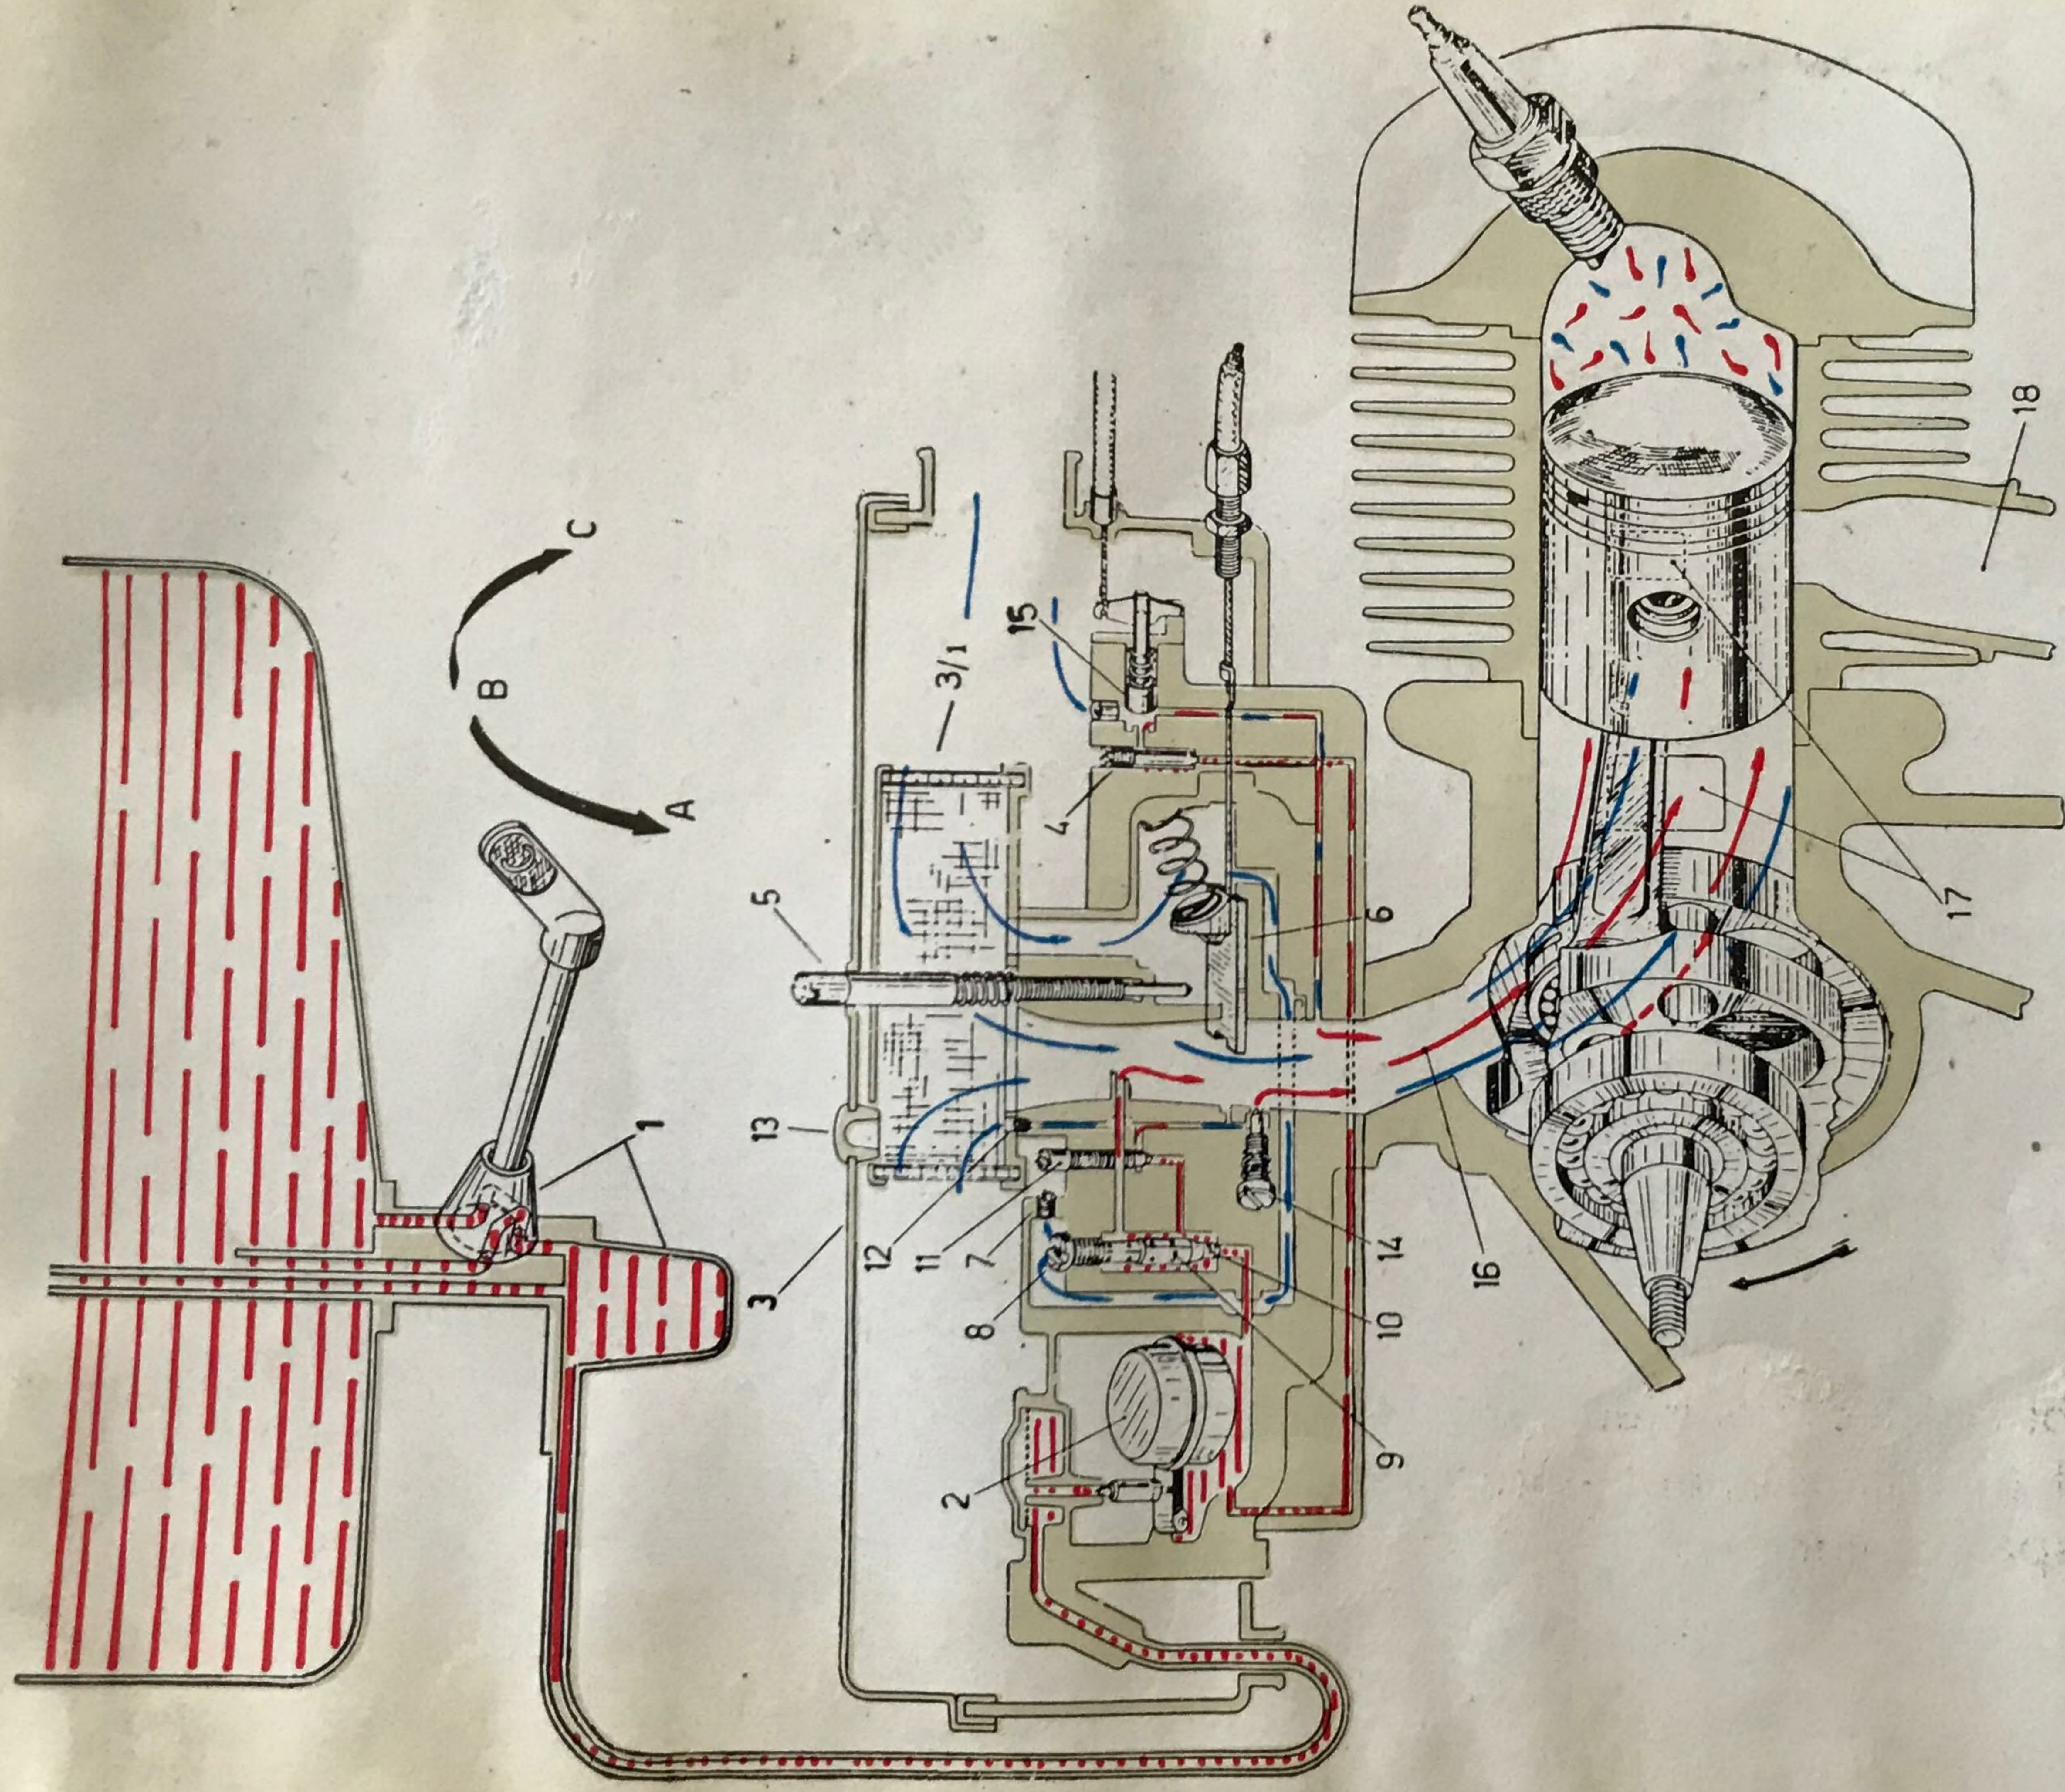

Fig. 9 - Fuel supply and distribution diagram
For adjusting the idling turn the slow running adjuster screw (Fig. 9, n. 5).
- On the air cleaner case, opposite to said screw, is a plugged hole. When this plug is removed the spring loaded idler adjusting screw is accessible (Fig. 9, n. 14).